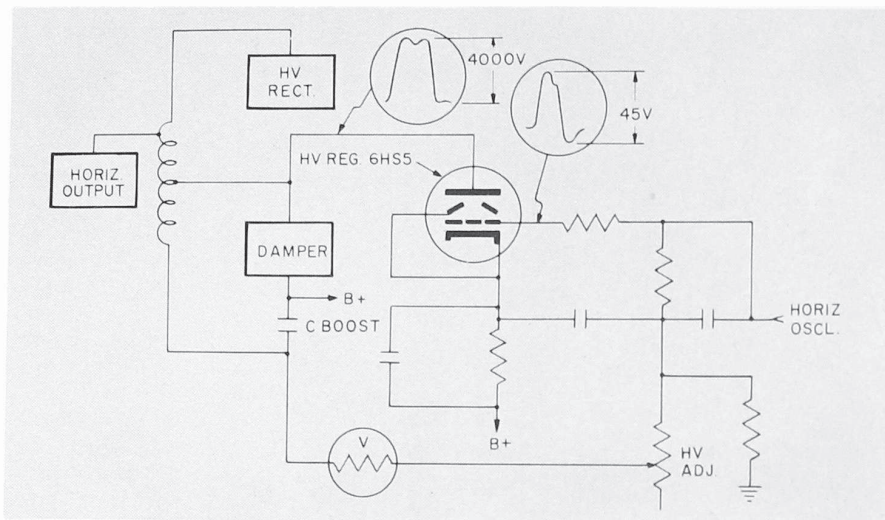

Figure 4—Simplified 6HS5 Pulse Controlled HV Regulation Circuit.
**6HS5 CIRCUIT**—The operation of the 6HS5 pulse controlled HV regulation circuit of Figure 4 is controlled primarily by two parameters:
- (1) A dc voltage obtained from the boost supply to vary conduction of HV regulator 6HS5, and
- (2) Narrow timing pulses of constant width and amplitude, obtained from the horizontal oscillator to permit 6HS5 to conduct *only* during retrace. (During trace, the plate of 6HS5 is at less than B+ potential. With the cathode at B+ and the grid negative with respect to the cathode, the tube is cut off.)
As established previously, high voltage and boost voltage varies inversely with brightness . . . as brightness increases, high voltage and boost voltage will decrease. As with the shunt regulator, the boost voltage changes are used to control conduction of the HV regulator to achieve high voltage regulation. As shown in the simplified circuit of Figure 4, the timing pulses obtained from the horizontal oscillator, and the dc